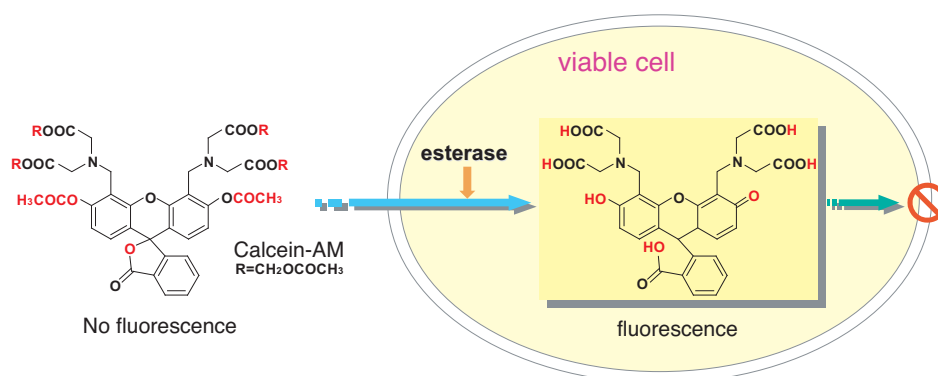

Fig. 13 Cell viability detection mechanism with CCK-F
**A** Calcein-AM, which contains an esterol in its structure, is hydrolyzed by esterase after passing through the cell membrane to form the fluorescent dye Calcein as indicated in Fig. 13. By measuring the amount of fluorescence, it is possible to determine the number of cells present. In addition, Calcein has low permeability across the cell membrane, so it does not leave the cell easily.